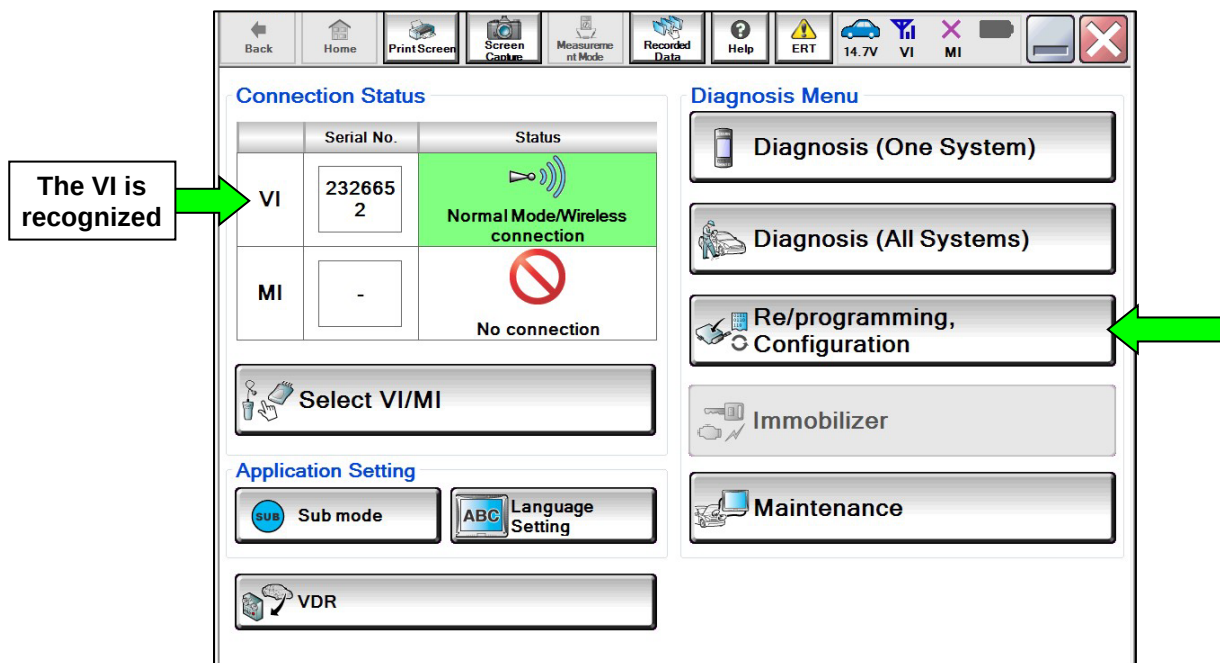

Figure 1
4. Connect the Vehicle Interface (VI) to the vehicle.
- The serial number will display when the VI is recognized (Figure 1 on page 3).